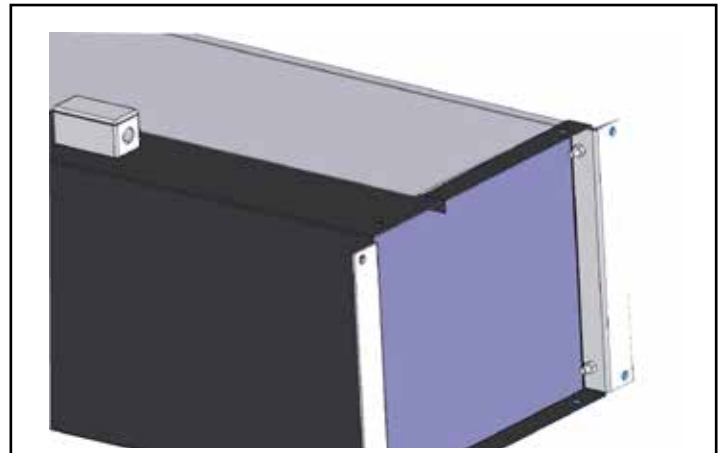

Figure 7 - Floor Mounting Brackets
- C. To vertically mount a IDC12/IDC14 Series unit using optional Floor Mounting Brackets, bolt brackets on the inside of the end plate with (4) $\frac{1}{2}$ - 13 bolts as shown in **See Figure 7.**